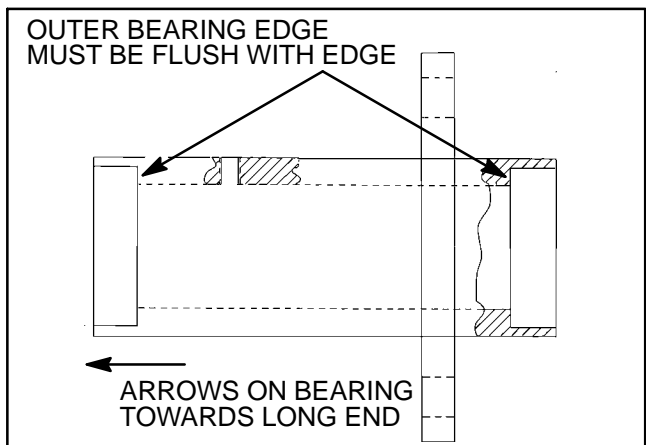

Figure 7
1. If drive studs (7) were removed, press new studs into the wheel hub (5).
2. Press roller clutch bearings (6) into the hub (5) as follows (Fig. 7):
**Note:** Arrow on the side of the clutch roller bearings (6) must point to the long side of the end of the hub (5).
3. Grease inner edge of the new grease seal (12) with No. 2 multipurpose lithium base grease. Slide seal onto motor shaft past groove closest to the motor. Install snap ring (11) into groove.